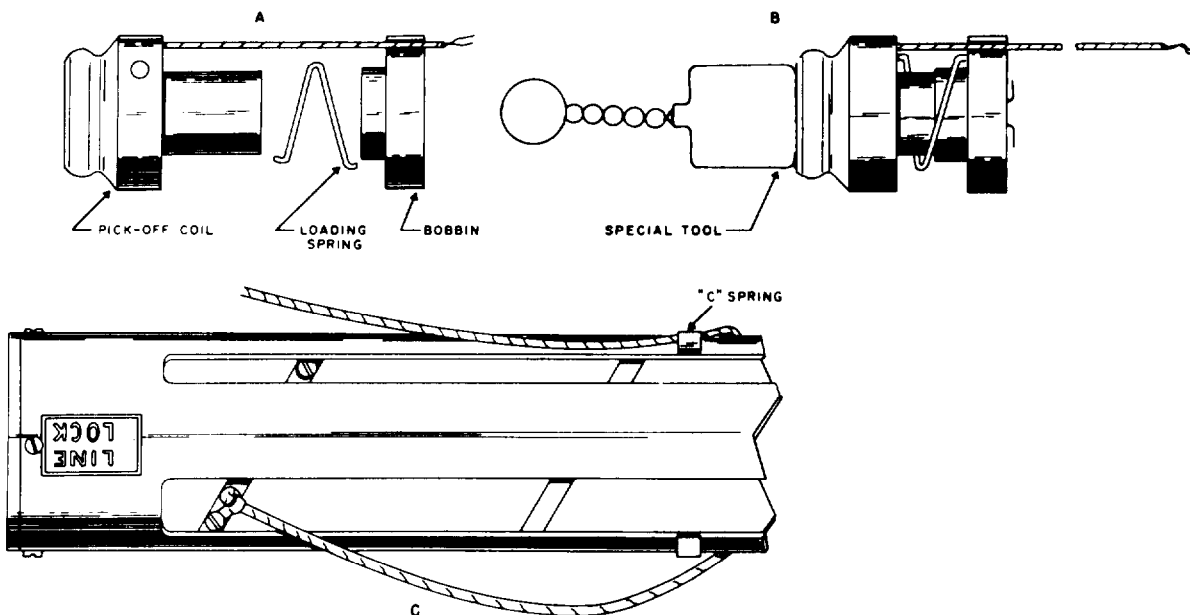

Figure 5-3. Reassembly of Delay Line Pickoff Coils
- Step 5. Attach two sets of screws, flat washers, and tubing into threaded holes as shown in figure 5-3 C. A solder lug is used to secure pickoff coil lead previously fed through helical slot.